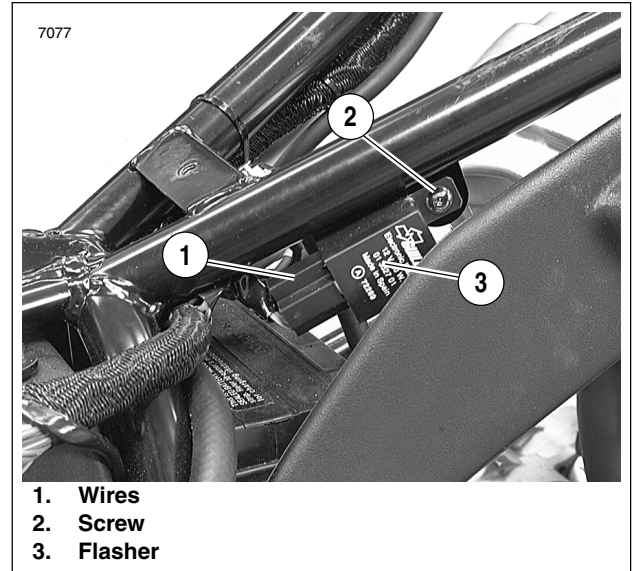

Figure 7-68. Turn Signal Flasher
2. See Figure 7-68. Remove screw (2) to free flasher (3) and wires (1) from frame.
3. Detach wires (1) from flasher base.
1. See Figure 7-68. Connect wires (1) to **new** turn signal flasher (3).
2. Attach assembly to **inside** of frame tube with screw (2).